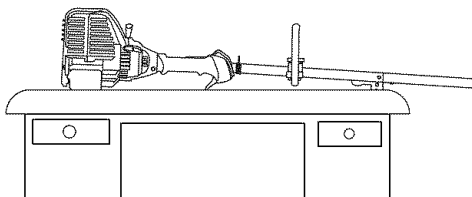

Fig. 19
2. Place the engine on an elevated, level surface with the cutting head shield hanging off the surface to get a proper oil level reading (Fig. 19).
5. Look into the oil fill hole, use a flashlight if needed. The oil should be just touching the inner most thread (Fig. 19).